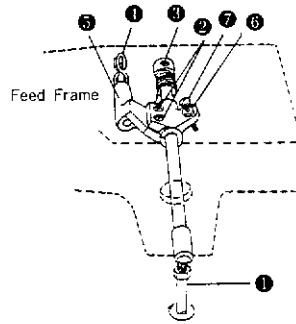

Fig. 2
5. Adjusting Knee Lifter (Fig. 2)